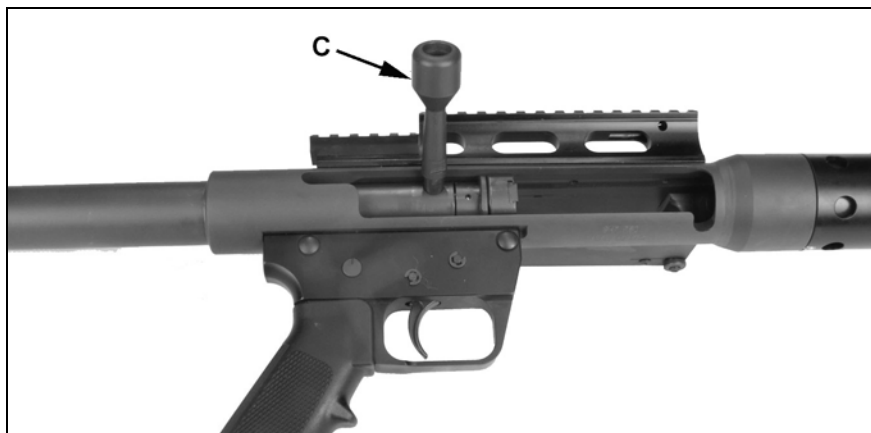

Figure 34
4. Install bolt handle (C) and tighten to 5-10 lb/ft of torque. See figure 34.